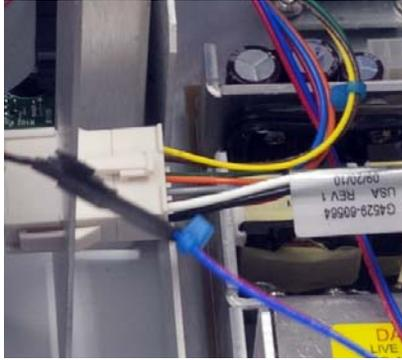

Figure 31 Cable connections
- 8 Connect the cables from the Peltier power control board to the main frame cables (Figure 31).